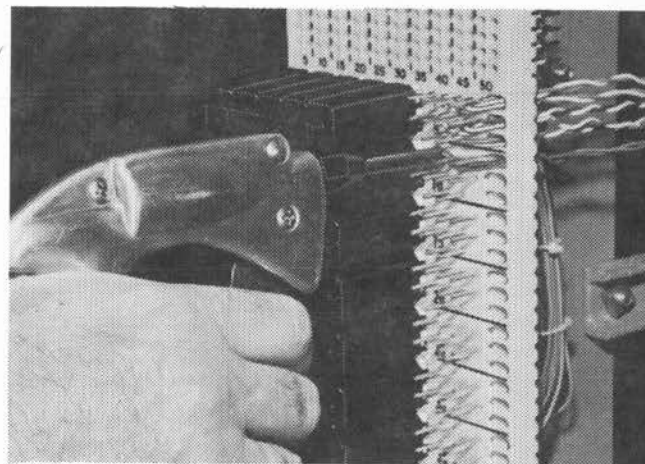

Figure 17
- 7.03 Fanning Strip. The fanning strip with holes for entrance of the central office jumpers is on the front of the panel immediately to the right of the wire-wrap terminals. Each group of 5 cable pairs have 3 fanning strip holes to facilitate easy access of the jumper wires from the line terminal blocks to the connector wire-wrap terminals. (See figure 17.)